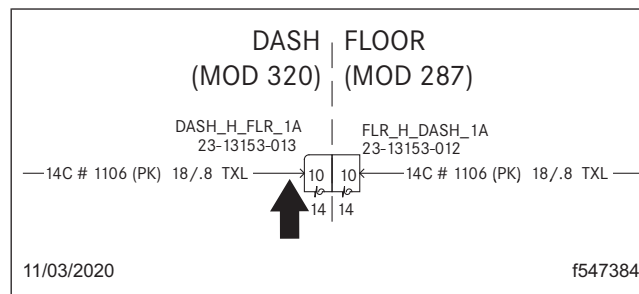

Fig. 7, Add Circuit 14C Overlay Back Into the DASH_H_FLR_1A Connector
6. Add the opposite end of the 14C overlay back into the DASH_H_FLR_1A connector cavity 10. See Fig. 7.